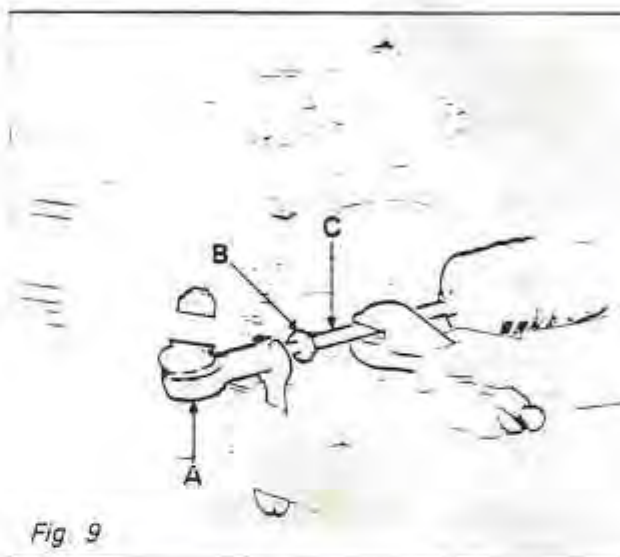

Fig. 9
Hold ball joint firm with wrench (A) and undo locknut (B) using grips rotate steering rod (C) in for toe-in and vice versa. *Fig. 9*